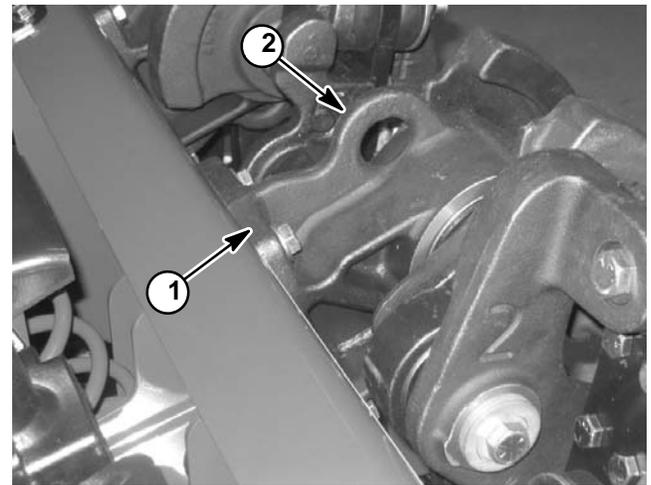

Figure 30
7. Using suitable lift or hoist, raise coring head slightly using lifting eyelets on coring crankshaft as lift points (Fig. 30). Use appropriate jackstands or blocking to support the coring head to prevent it from shifting.
8. Remove upper link assemblies (item 21) from hitch frame and coring head frame.
9. Remove fasteners (items 4, 5 and 6) that secure end of pivot shafts to machine.
10. Carefully slide pivot shafts from H-frame. Locate and retrieve four (4) thrust washers (item 2) from between H-frame and machine frame.
12. If necessary, remove bushings (item 20) from H-frame.